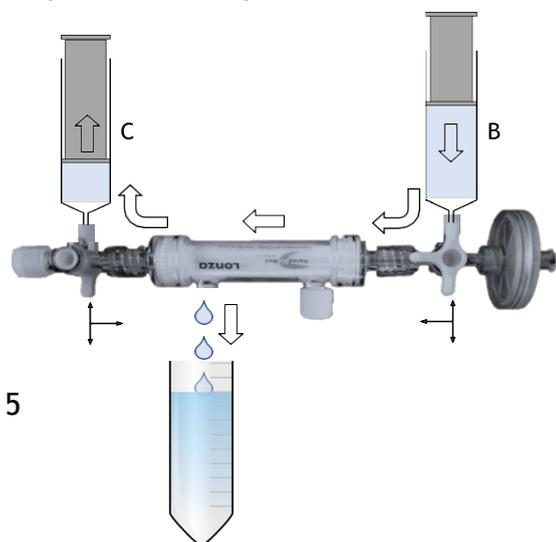

Fig 5
- Reattach the syringe B, enable the flow through valve in position 3 and wash the filter with PBS until the syringes are completely empty in order to remove residual smaller particles (figure 5). Repeat the step once.